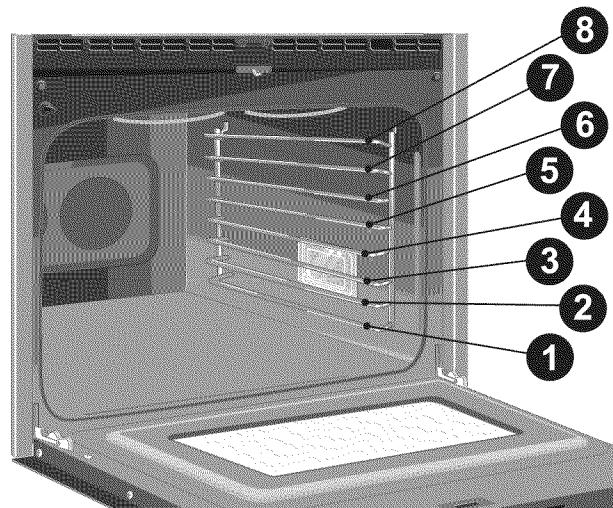

Fig. 2
- Use the recommended pans and oven rack positions for the type of meat being prepared -*Figs. 2 & 3-*.
2. Arrange the interior oven rack to rack position recommendations - Figs. 2 & 3- . Be sure to place the prepared food and pan directly under broil element. Close the oven door.